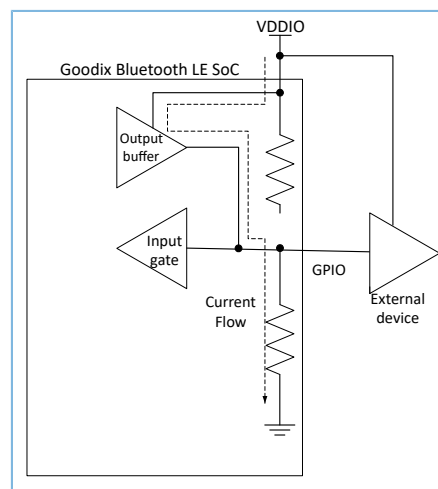

Figure 4-4 Current schematic for GPIO as output for high voltage level
- (1) If a GPIO pin is configured as an output driving high with a pull-down resistor enabled, current flows from VDDIO to the pull-down resistor, as shown in Figure 4-4.